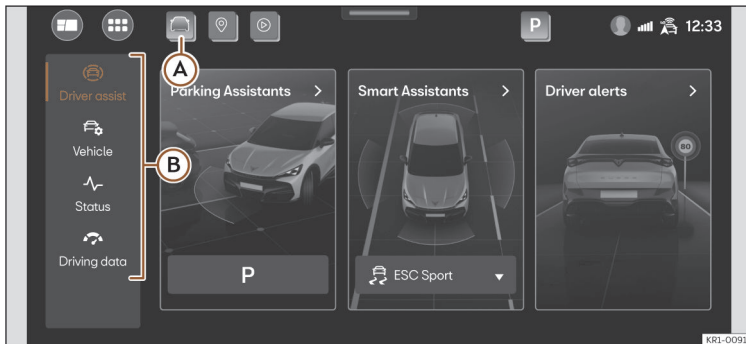

Fig. 13 Schematic diagram: Assistants and vehicle settings
Press >>> **Fig. 13 (A)**, or **Vehicle settings** in the main menu to open the assistants and vehicle settings menu. Next, clicking on any of the menus located in the left area **(B)**, displays the settings menu or the selected assist systems on the display.